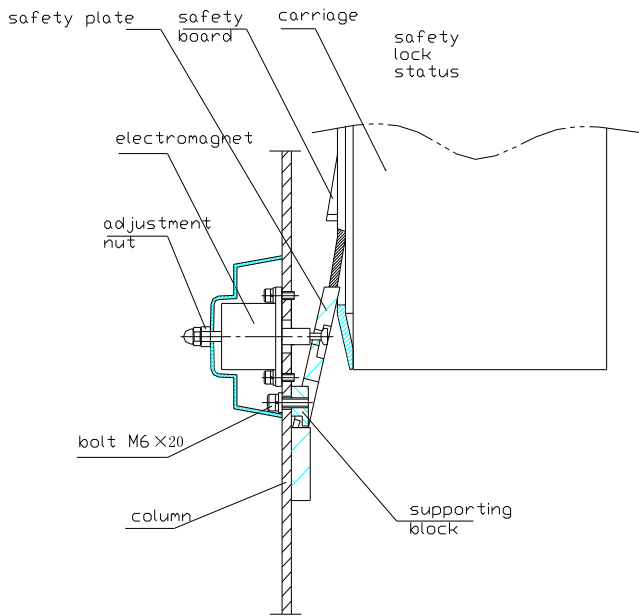
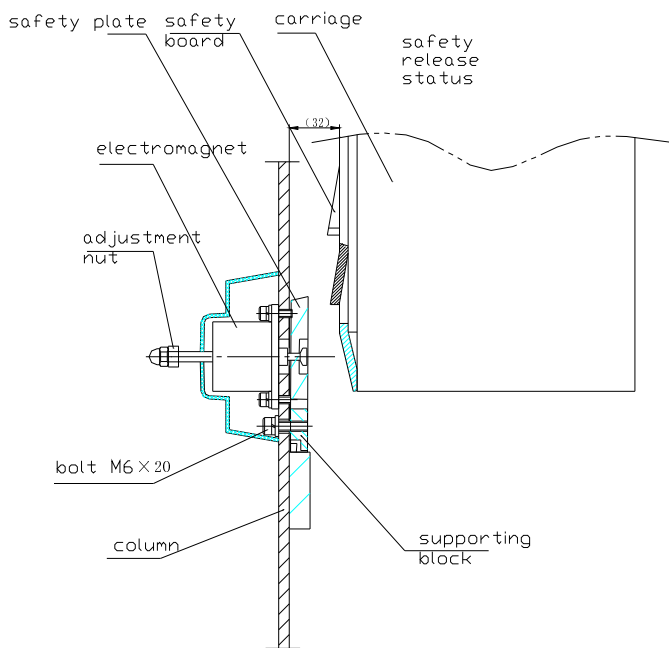

Fig. 3
Fig. 4
- Electromagnet safety mechanism: On each of the two columns, two safety lock devices are installed respectively. During the lifting process, the safety devices start to operate automatically and ensure reliable safety. Since two columns have electromagnet safety devices, they can provide double safeties.(see fig.3&fig.4)
the safety plate will block into the safety orifice, preventing the falling of the carriage (Fig. 3). When the electromagnet is actuated, the safety plate is released for carriage lowering (Fig. 4).